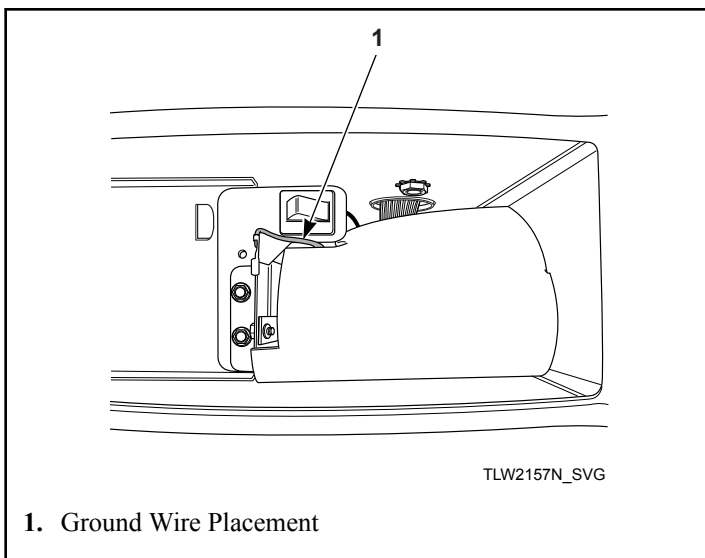

Figure 32
7. Before installing coin slide and extension, make sure ground wire is tucked under control shield to provide clearance for coin slide. Refer to *Figure 32*.